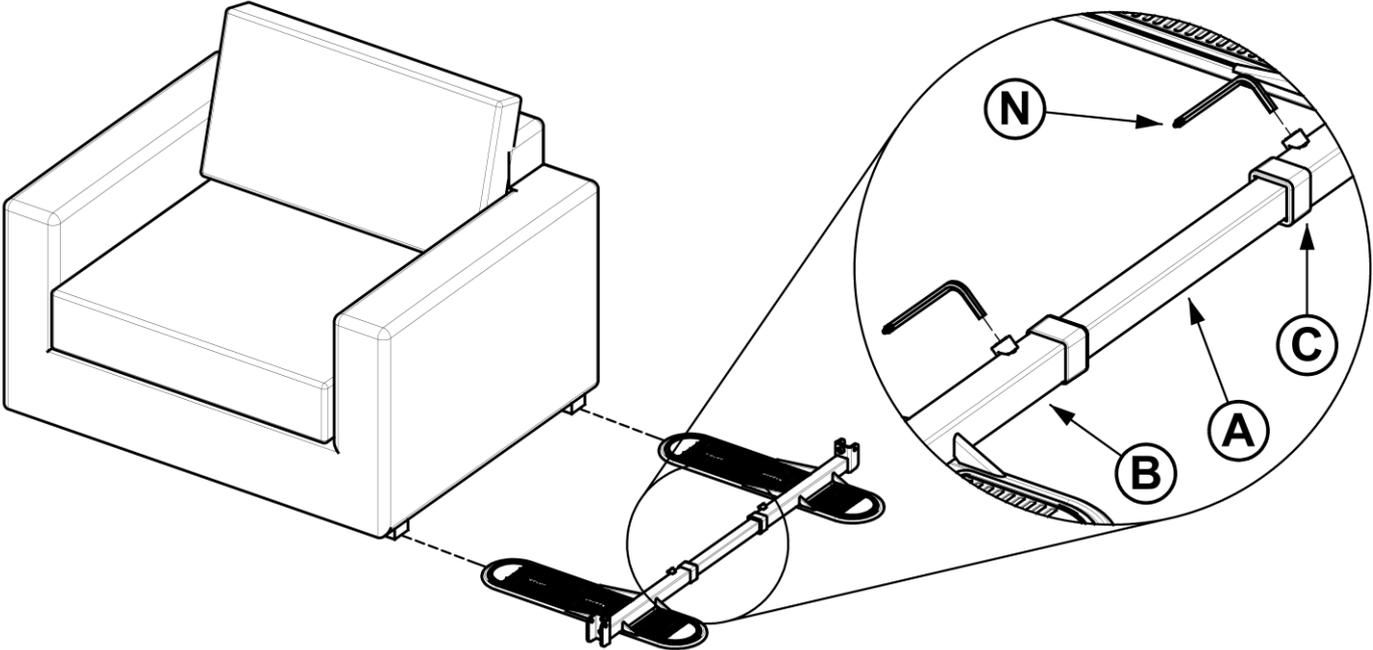

FIGURE 19
19. Slide Foot Connector **A** into Feet **B** and **C** as shown in *FIGURE 19*. Space out Feet **B** and **C** so that the center of the pads are the same width as furniture feet. Ensure MAX markings on Foot Connector **A** are covered by Feet **B** and **C** and tighten SET SCREWS on Feet **B** and **C** with Tool **N**.